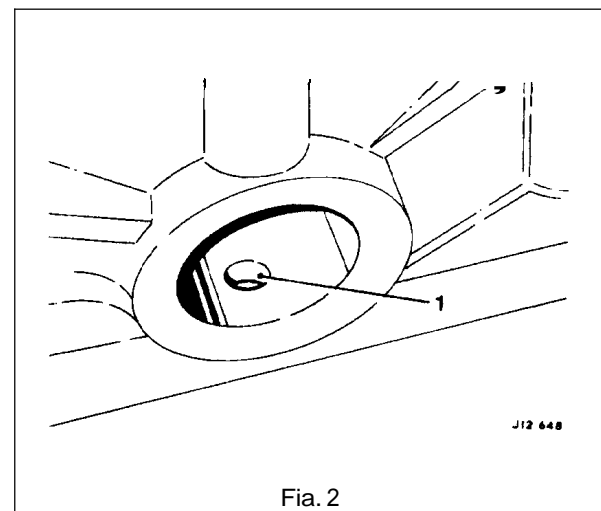

Fig. 2
- Attach a dial test indicator to the top of the engine with the stylus resting on a piston. Rotate the engine and set No. 1 cylinder (Fig. 2) at TDC. Refit the lower static damper. Fit and tighten the securing bolts and lock over the tab washer. Fit the oil pump chain damper in position, do not tighten the securing bolts at this stage. Take any slack out of the chain using hand pressure to push the damper towards the center of the engine.